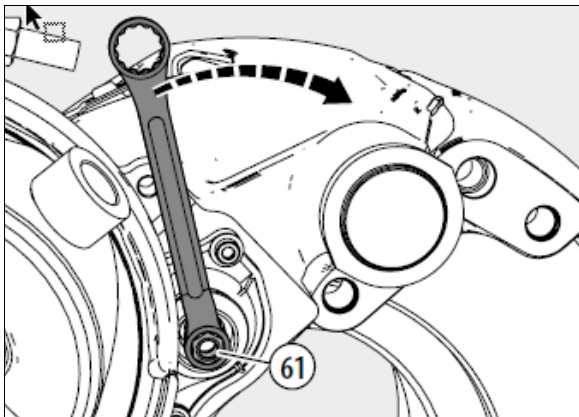

**FIGURE 40: TURN ADAPTER 3 CLICKS ANTICLOCKWISE**
14. Turn the adjuster with adapter (61) **3 clicks** anticlockwise (increasing the air gap) (see Figure 40).